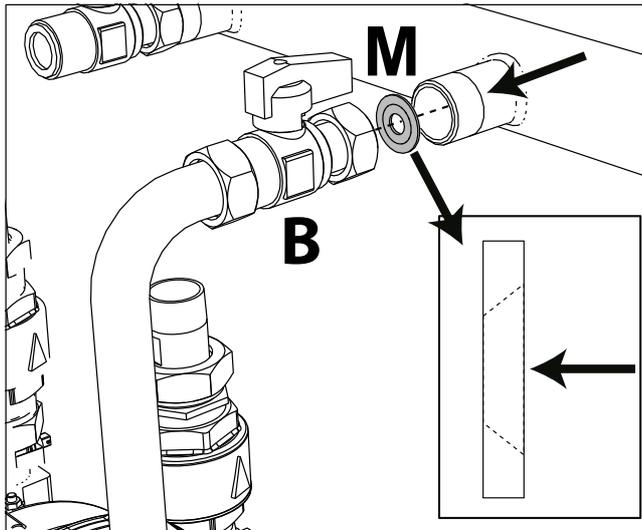

fig. 84- Nozzle for use with LPG
8. In case of **conversion to LPG**, the existing gasket between cock "B" and gas manifold must be replaced with nozzle "M" (fig. 84).
**ATTENTION:** The nozzle "M" (see fig. 84) **must not** be inserted with the unit running on **Natural Gas**.